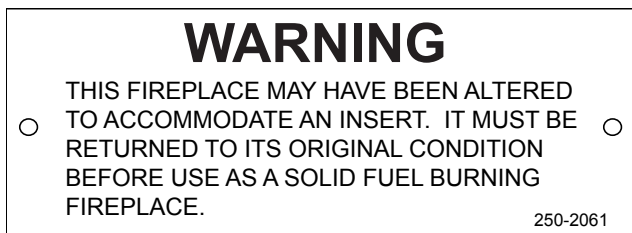

Figure 18.1
- The permanent metal warning label provided in the component pack must be attached to the back of the fireplace, with screws or nails, stating that the fireplace may have been altered to accommodate the insert, and must be returned to original condition for use as a conventional fireplace (**Figure 18.1**).